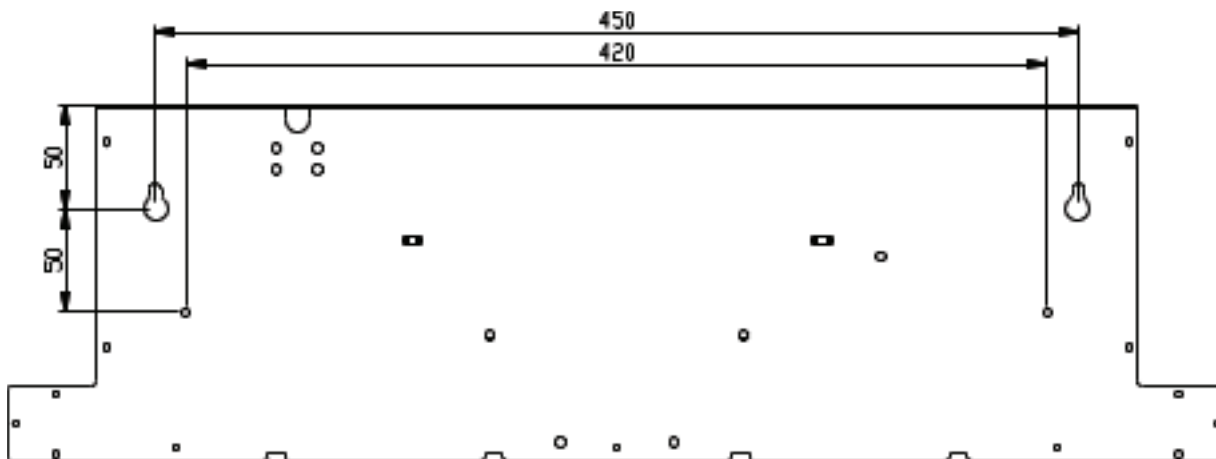

Figure 7
- Drill 4 holes of Ø8mm on the wall, as illustrated below (Figure 7).